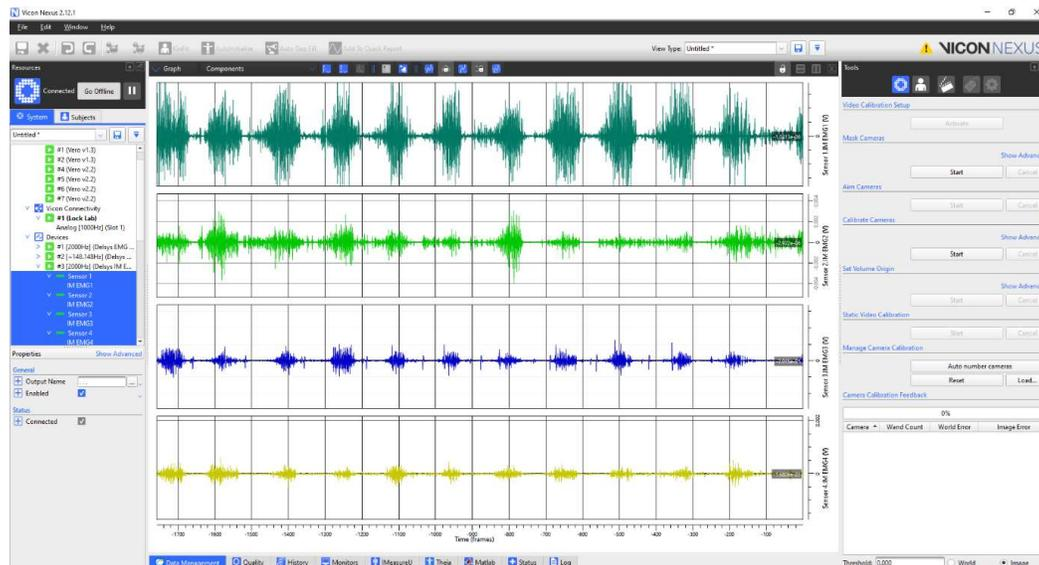

Figure 11: Delsys EMG data streaming directly into Vicon Nexus.
- When data capture is initiated in Vicon Nexus, a 5V pulse will be sent to the Delsys system via the Trigger Module to initiate recording and ensure that data streaming from the Delsys system is synchronised with the motion capture data (Figure 11).